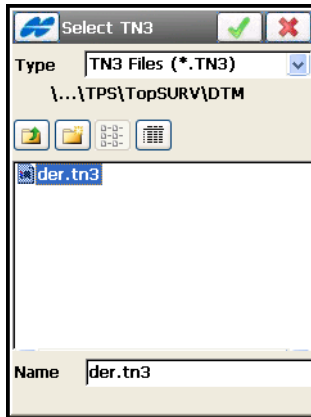

Figure 4-53. Select TN3
TopSURV stores surfaces in TN3 files in the DTM directory. Select a desired TN3 file to export in the *Select TN3* screen (Figure 4-53).
- For *Surfaces*: opens the ***Select TN3*** screen to select a desired TN3 file to export (see Figure 4-53 on page 4-48). TopSURV stores surfaces in TN3 files in the DTM directory.
- For *Surfaces*: opens the **Select TN3** screen to select a desired TN3 file to export (see Figure 4-53 on page 4-48). TopSURV stores surfaces in TN3 files in the DTM directory.